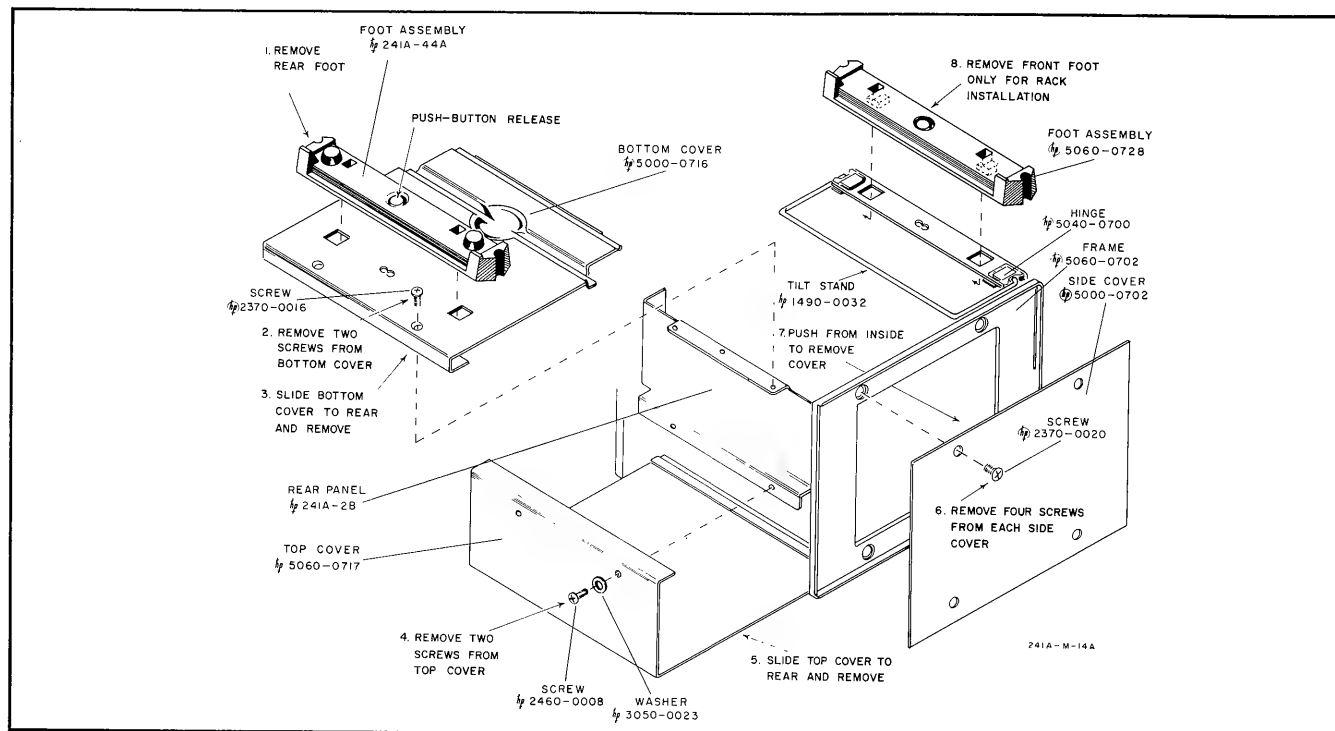

Figure 5-3. Cover Removal
5-14. For access to circuit components, remove the top and bottom covers. When repairing the frequency-selector switch assemblies (S101 through S103); or, when replacing multiplier switch S104, remove the side covers as well. To remove covers, refer to Figure 5-3, and proceed as follows:
- Remove screws from top and bottom covers as shown in Figure 5-3.
- Remove top cover from Model 241A cabinet. (Refer to Figure 5-3.)